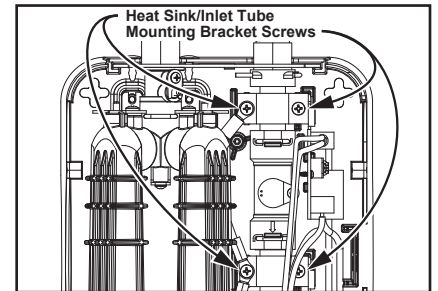

Figure 31 - Heat-sink/inlet tube mounting bracket screws.
**7** Locate the four mounting screws securing the heat-sink/inlet tube mounting brackets. Use a Phillips screwdriver to remove the four screws and place the brackets to the side. The assembly can now move freely. See Figure 31.